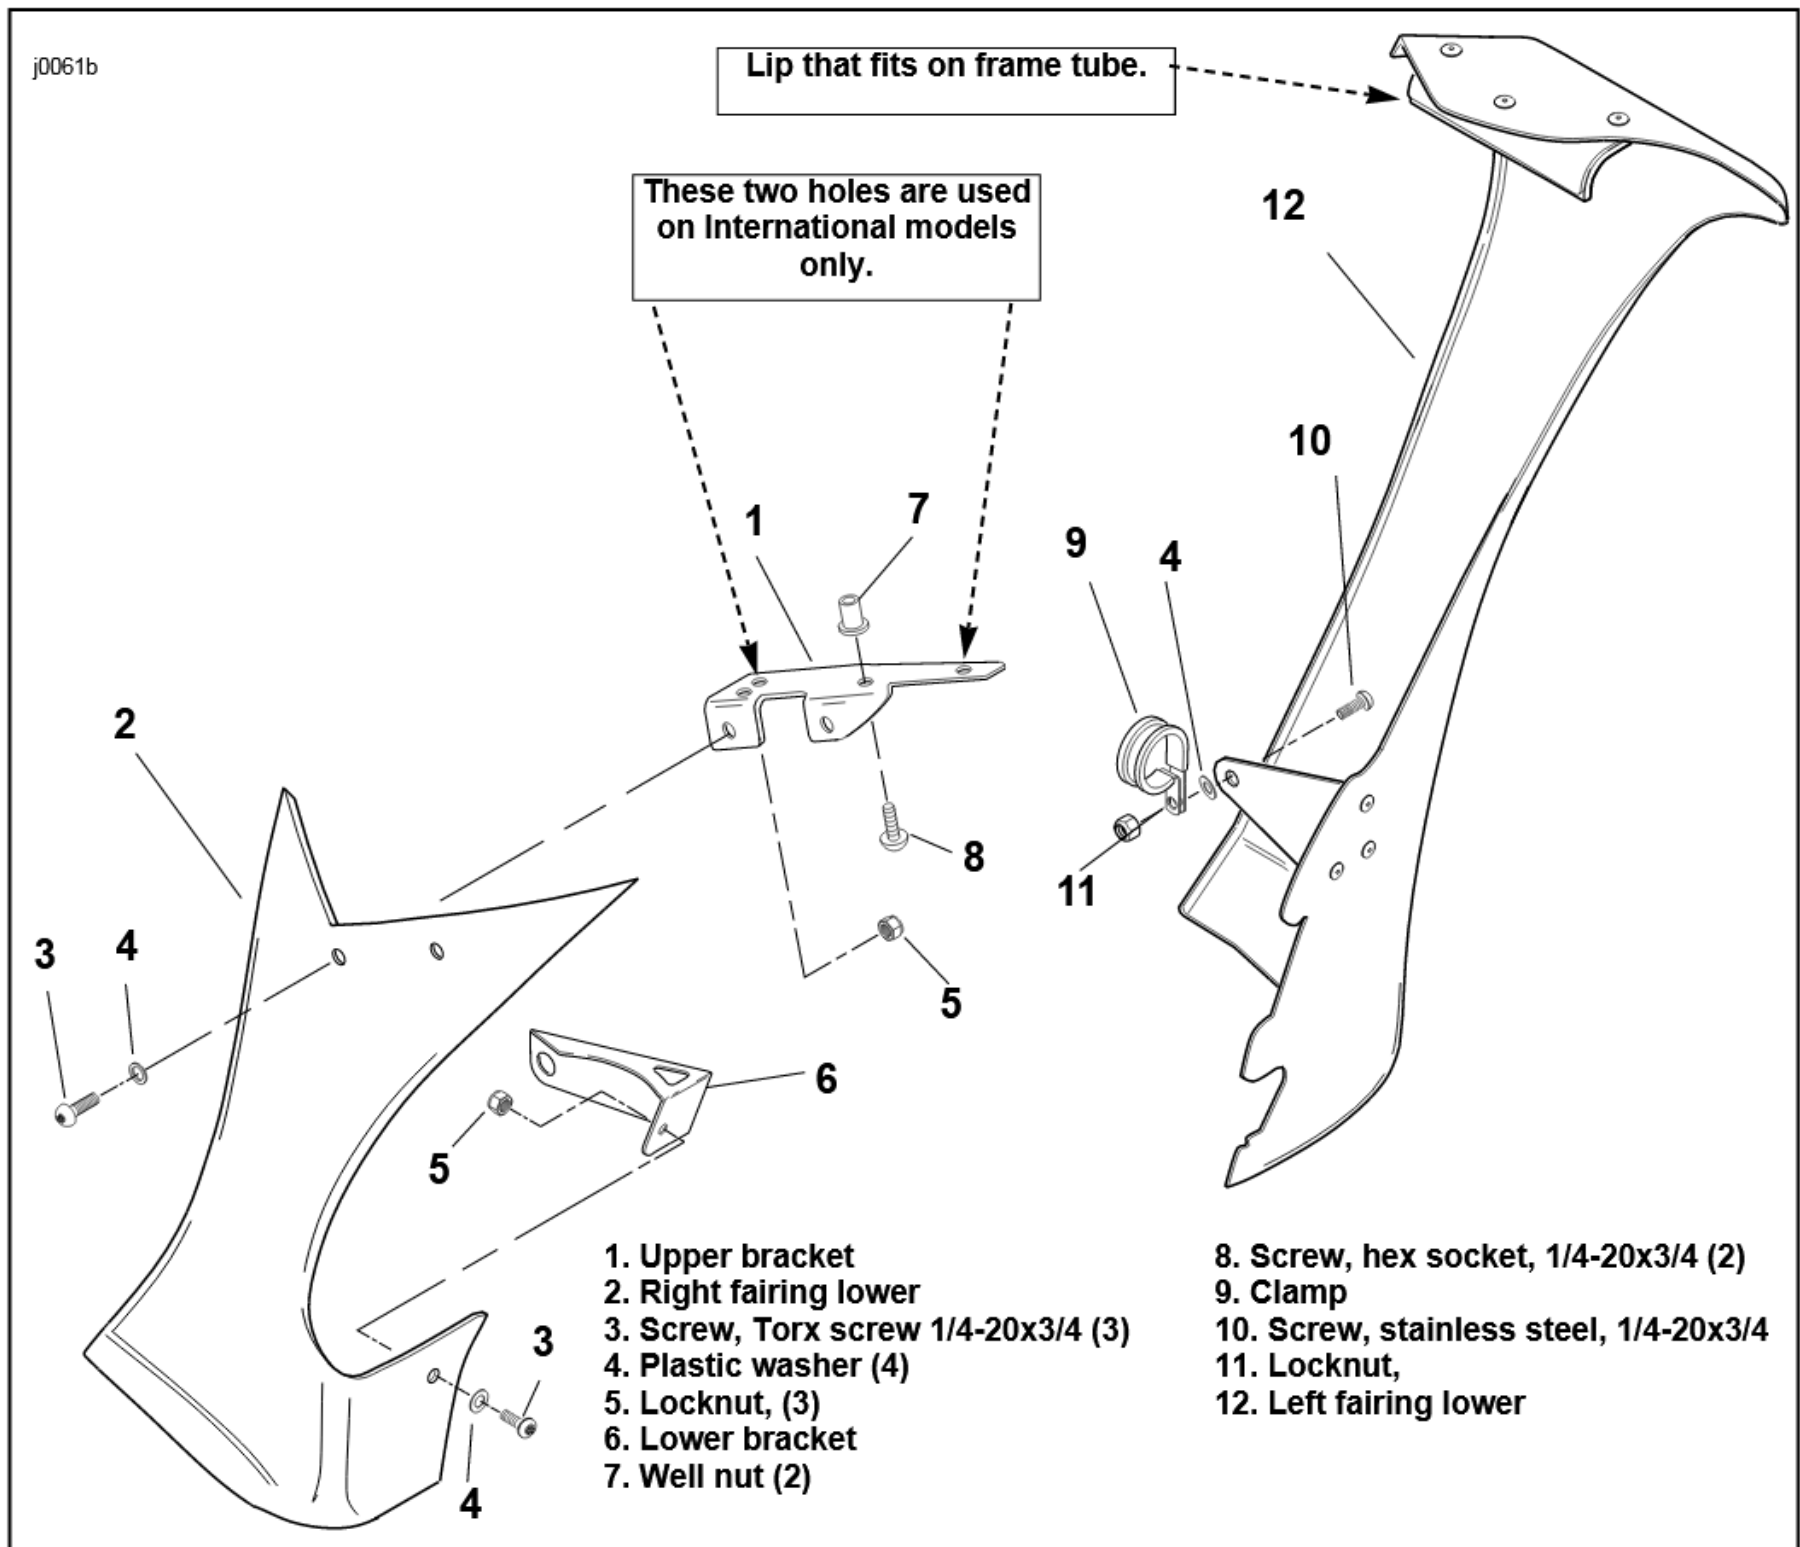

Figure 5. Fairing Lowers
2. See Figure 5. Locate proper holes in upper bracket (1) depending on vehicle configuration. Install upper bracket (1) on air cleaner cover with screws (8) that were removed in step 1. Tighten screws (8) securely.
3. See Figure 5. Loosely attach right fairing lower (2) to upper bracket (1) with screws (3), plastic washers (4) and locknuts (5)
4. See Figure 5. Loosely attach lower bracket (6) to right fairing lower (2) with screw (3), plastic washer (4) and locknut (5).
5. See Figure 3. Remove large nut and flat washer. Discard flat washer. Slide bracket (6, Figure 5) on stud. Install nut "finger-tight".
- a. Tighten screws (3) and locknuts (5) that secure right fairing lower to upper bracket (1).
- b. Tighten screw (3) and locknut (5) that secure right fairing lower to lower bracket (6).
1. Refer to applicable Service Manual and remove fuel tank mounting screw. See Figure 5. Gently lift fuel tank and insert left fairing lower (12) lip over frame tube.
2. See Figure 5. Install clamp (9) on small frame tube joining lower frame tube to front tie-bar mount tubes.
3. Align clamp (9) with metal bracket on fairing lower. Insert screw (10) through metal bracket, plastic washer (4) and clamp (9). Install locknut (11), but, don't tighten now.
5. Tighten screw (10) and locknut (11).